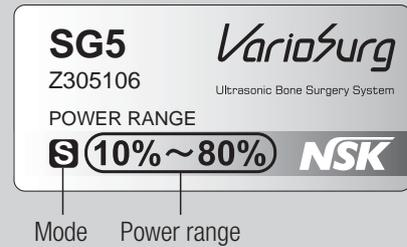

Fig. 21
- Use the Tip **ONLY** in the Mode, and within the Power Range, as displayed on the Tip case label. If used outside the prescribed power range the Tip may break, and the tooth surface or soft tissue may be damaged. (Fig. 21)